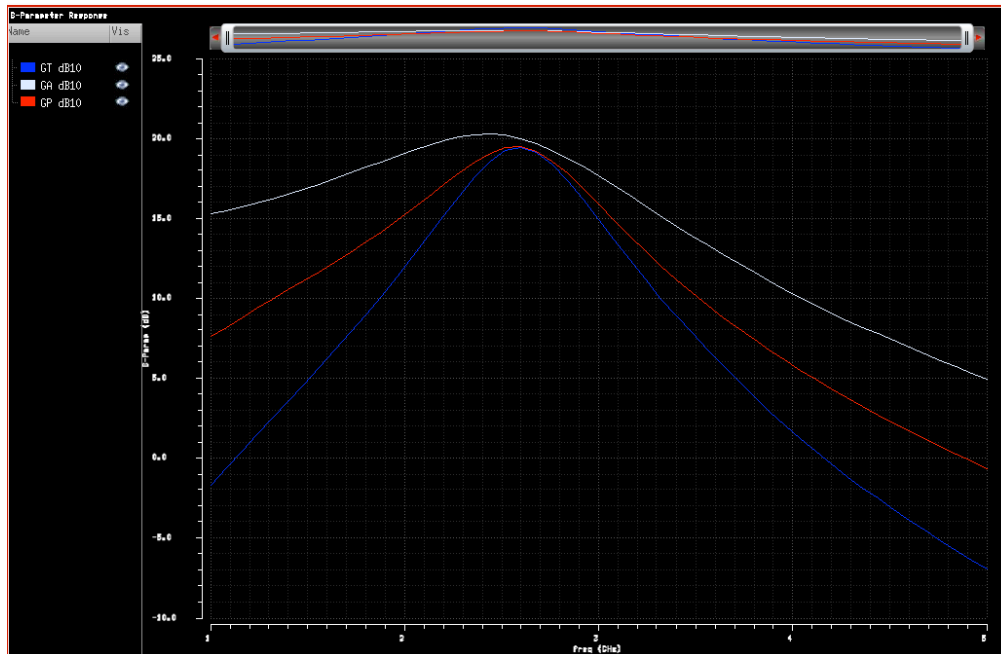

Fig 4. G_T , G_A , and G_P
- Press the *PLOT* button; the result should be similar to Fig. 4.